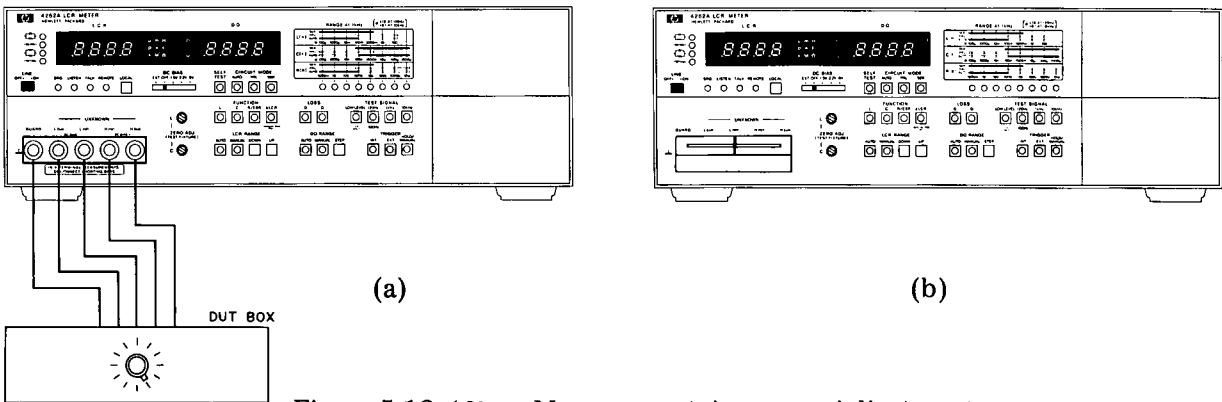

Figure 5-12. 10kHz Measurement Accuracy Adjustment.
a. Connect Test Leads (HP P/N 16361-61605) between 4262A UNKNOWN terminals and 16362A DUT Box as shown in Figure 5-12 (a). If DUT Box is not available, attach 16061A Test Fixture to 4262A UNKNOWN terminals [see Figure 5-12 (b)].
- g. Remove 16061A from 4262A UNKNOWN terminals and connect Test Leads (HP P/N: 16361-61605) between 4262A UNKNOWN terminals and 16362A DUT Box as shown in Figure 5-12 (a).